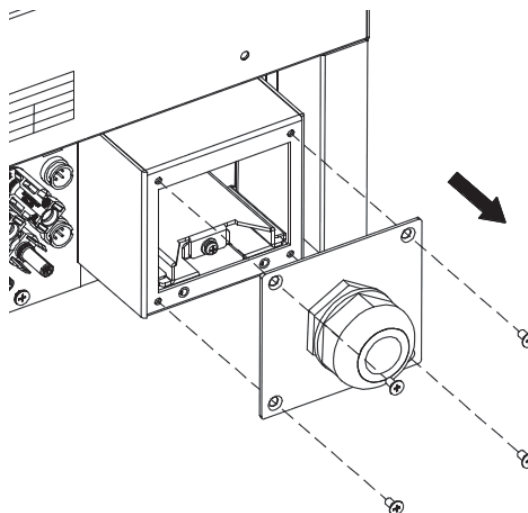

Figure 4.17 Unpacking the waterproof cover
- (1) Lighting, short-circuit and other protection measures which meet the local electrical safety laws and regulations are needed before the AC connection;
- (2) Disassemble the waterproof cover of the three-phase inverter AC junction box, as shown in Figure 4.17;